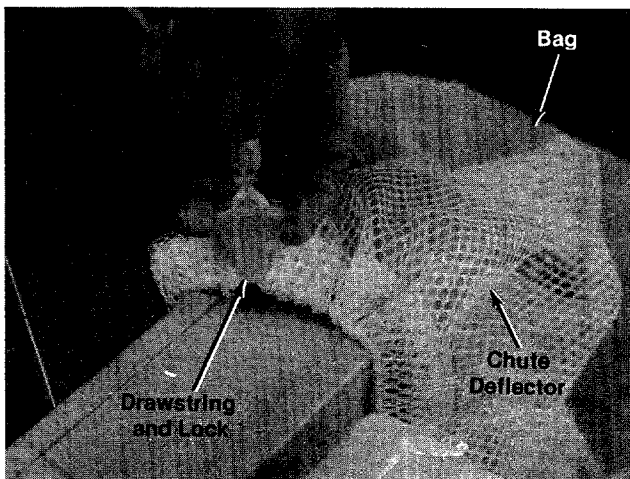

FIGURE 2.
3. Place the bag over the chute deflector and pull draw string and lock. See figure 2.